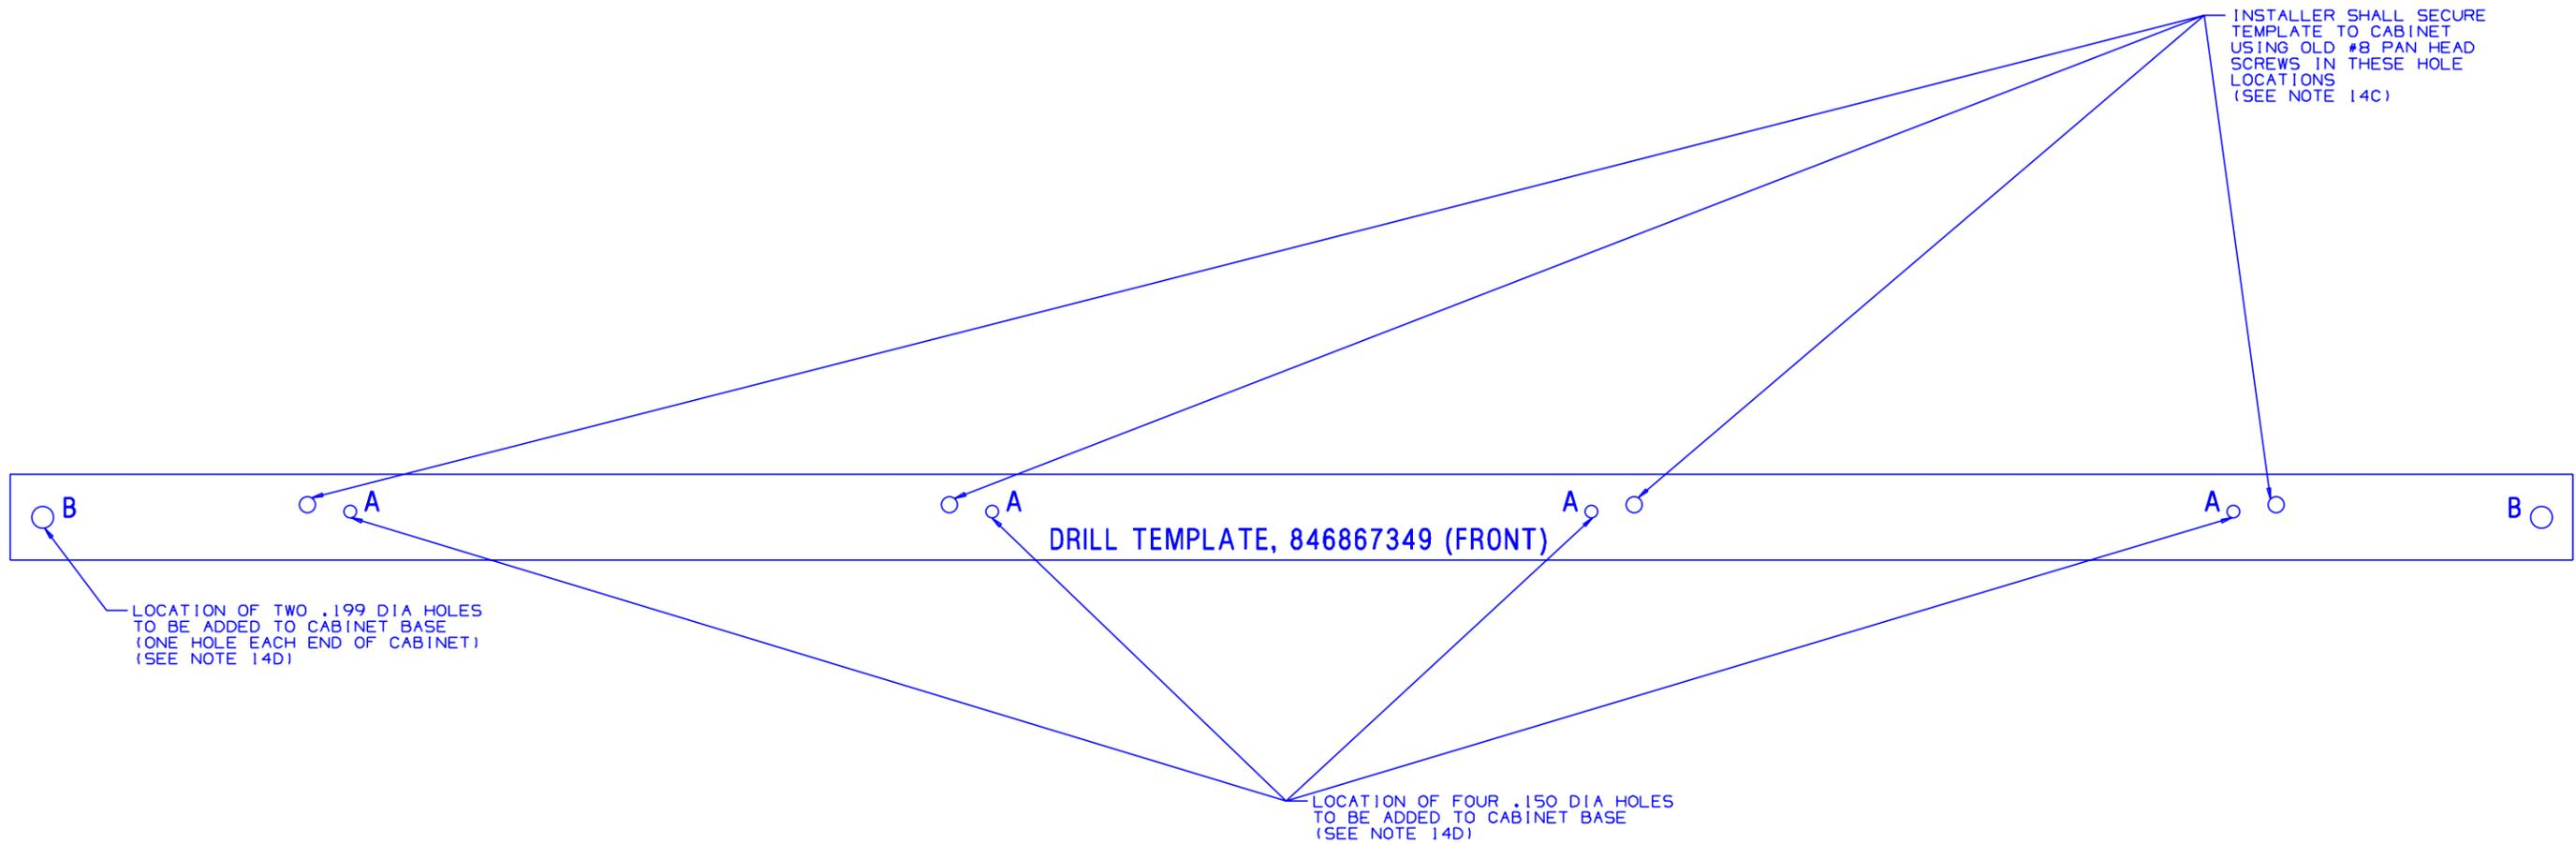

FIG. 6
C. NEXT, USING FOUR OLD #8 PAN HEAD SCREWS SECURE THE DRILL TEMPLATE, 846867349 TO THE FACE OF THE CABINET BASE UTILIZING THE FOUR EXISTING HOLES IN THE CABINET BASE MEMBER, (SEE DETAIL C AND FIGURE 6).